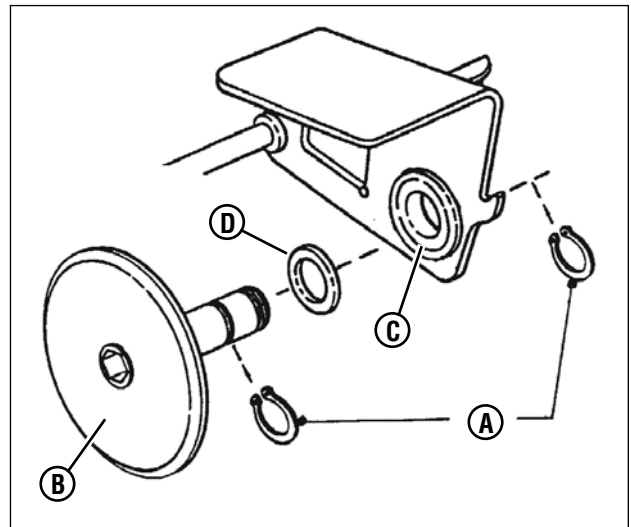

Figure 30: Replacing the driven disc
- Remove the two snap rings (**A**, **Figure 30**) which secure the rubber driven disc (**B**) to the driven disc assembly.
- Remove both snap rings (**A**, **Figure 30**) that secure the rubber driven disc (**B**) to the thrust plate.